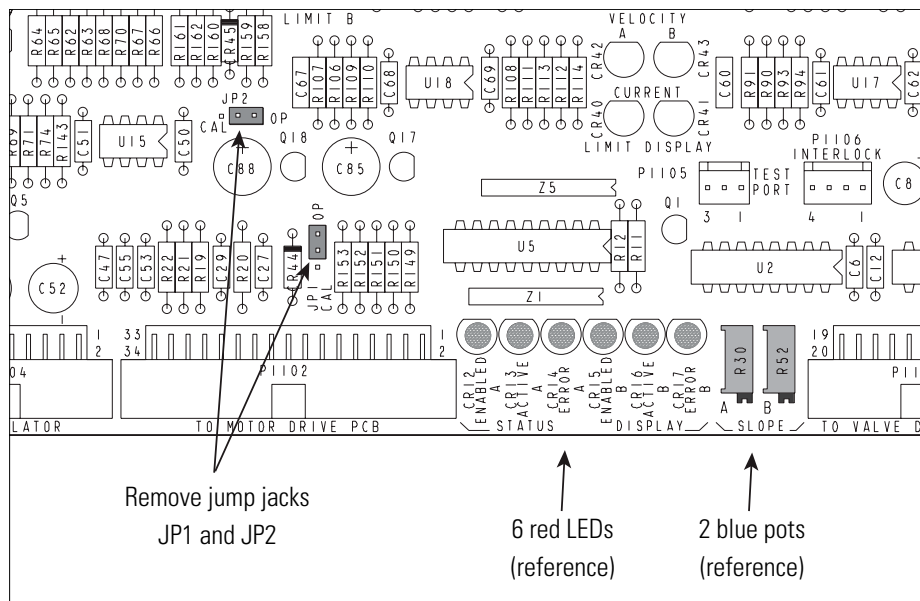

Figure 2.
- Locate the T19401-G2 or T18021-G1 VaporVac controller printed circuit board assembly. The VaporVac controller PDA has six (6) red LED's and two (2) blue potentiometers on the very front of the board that can be used as a good visual indicator. (see Figure 2)
- Locate the jump jack behind connector P1102 (see Figure 2). You will also see "CAL" and "OP" on each end of the jump jack positions.
- Remove the jump jacks from positions JP1 and JP2. Removing these two (2) jump jacks will disable the puff circuit.